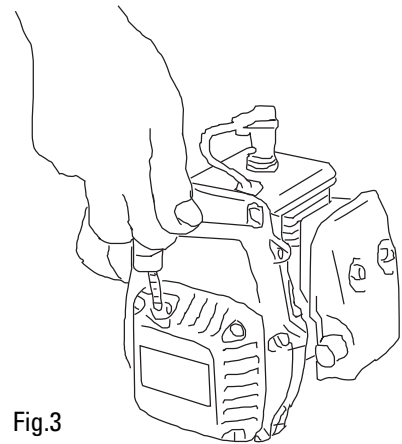

Fig.3
- ▶ Pull the pull-start a few times to prime the engine (Fig. 3). You will hear the engine fire and feel a resistance in the pull, at this point open the choke valve.